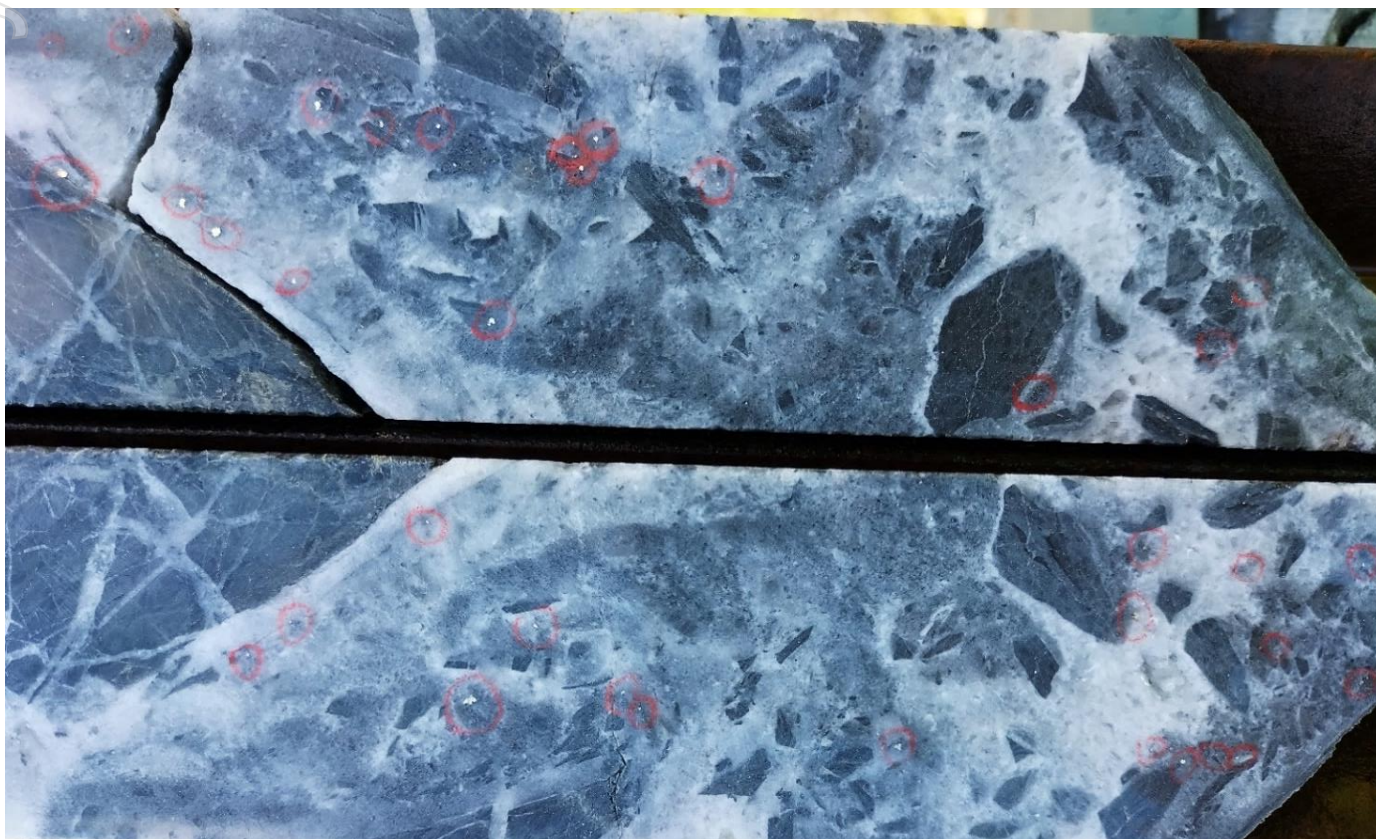

Figure 1: BKC008 Visible Gold intersection ~0.35m from 467.8m downhole
- 50+ pieces of visible gold observed ranging from sub-millimetre to 2mm² in size (Figure 1)
Red River sent 15.8m of core from BKC008 for priority assay, as it visually contained a central structure of strong veining which included three intense breccias between 15 and 35cm (Figure 1).